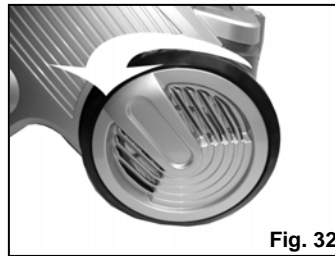

Fig. 32
2. To remove the HEPA filter cover, hold the cover and turn it counter clockwise. (Fig. 32)